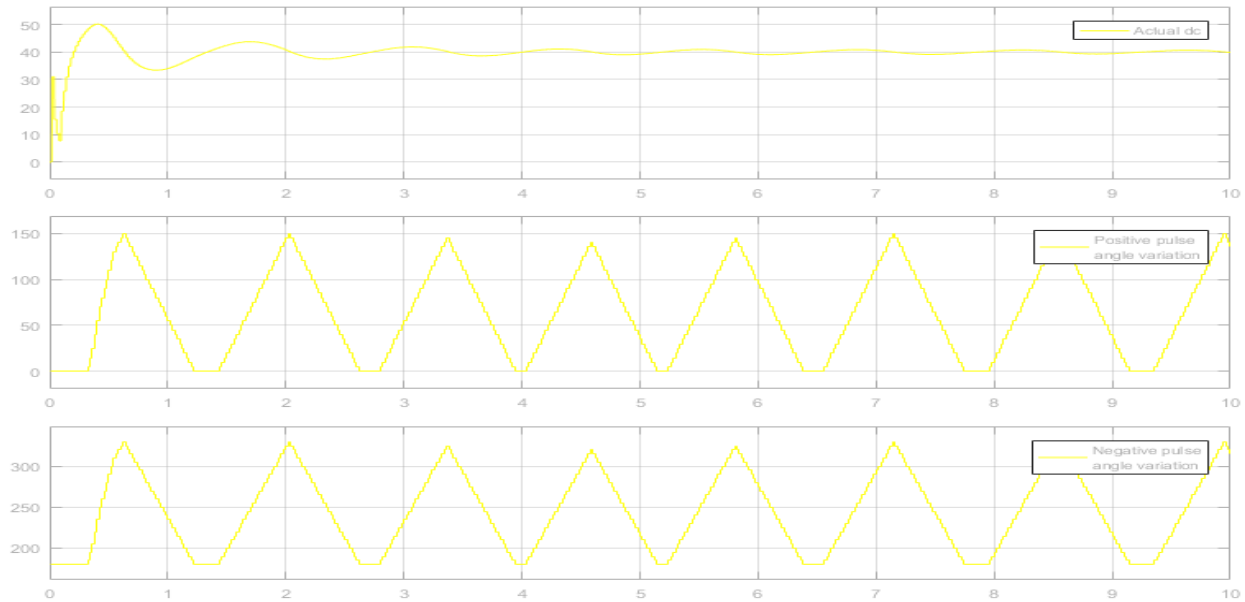

Figure 1.16.: Actual dc and Variation in Pulse angle waveform in of Full -Wave Controlled Rectifier Circuit with Variable Step Size (P & O method) in Simulink
**Result & Discussion:** In this experiment, half-wave and full-wave controlled rectifier circuit was made using PI controller and (P&O) method with fixed and variable step size. By setting the value of  $V_{ref}$  the desired actual dc value was found in the output waveform. These 6 circuits are designed in such a way so that it can give upto maximum convertible dc value in the output where PI controller will automatically fix the firing angle. It can be seen that for different  $V_{ref}$  value different firing angle was set accordingly. Also, it can be seen that for fixed step size the steady state error was more than found in the variable step size which can be compared by observing figure 1.16, 1.13, 1.7, 1.5. For variable step size the steady state error was minimum. In full-wave rectifier circuit the negative pulse was created by phase shifting the positive pulse angle by 180 degree. The experiment was done carefully and the MATLAB codes logics were produced according to the desired circuit. By observing the result or input-output waveform with phase and pulse angle it can be said that the desired value was yielded in this simulation. So, the simulation was done successfully and expected result was found.